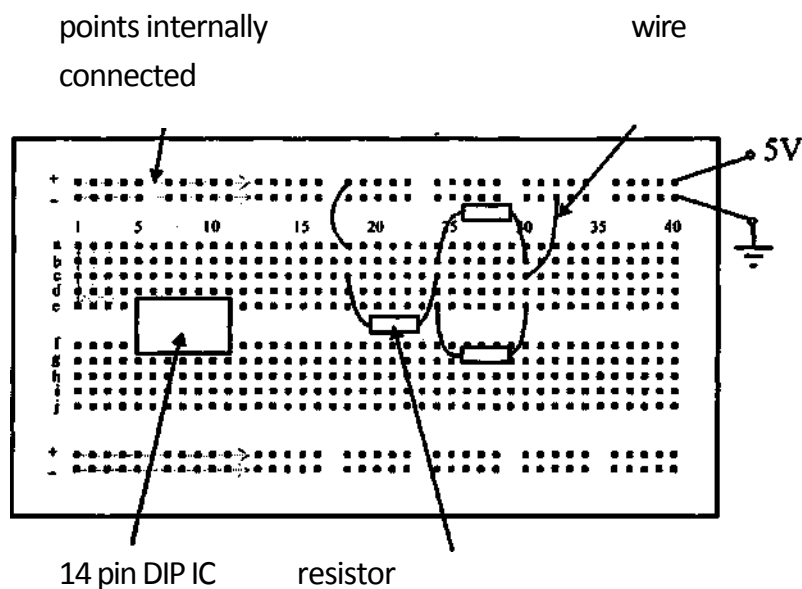
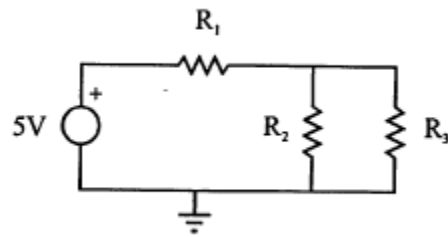
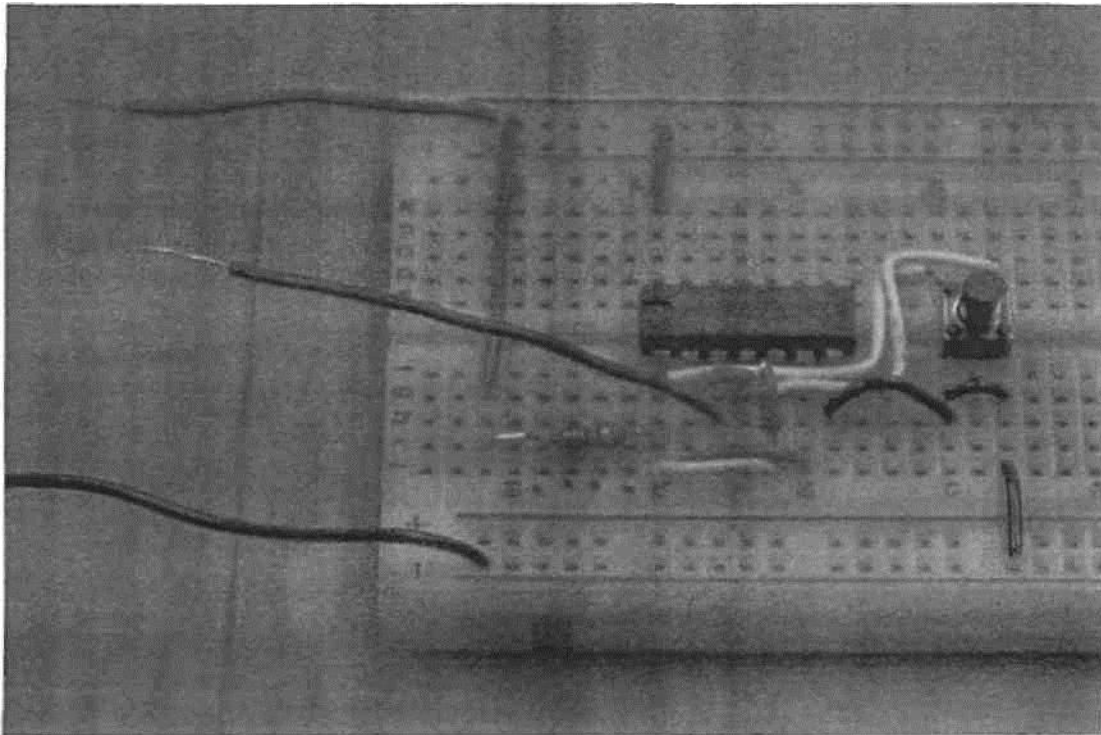

Figure 1.2 Breadboard
Figure 1.3 Example resistor circuit schematic
Figure 1.4 Example Breadboard Circuit
A breadboard is a convenient device for prototyping electrical and electronic circuits in a form that can be easily tested and changed. Figure 1.2 illustrates a typical breadboard layout consisting of a rectangular matrix of insertion points spaced 0.1 in apart. As shown in the figure, each column a through e, and f through j, is internally connected, respectively. The + and - rows that lie along the top and bottom edges of the breadboard are also internally connected to provide convenient DC voltage and ground busses for connecting to specific insertion points. As illustrated in the figure, integrated circuits (IC) are usually inserted across the gap between columns a through e, and f through j. A 14-pin dual in-line package (DIP) IC is shown here. When the IC is placed across the gap, each pin of the IC is connected to a separate numbered column, making it easy to make connections to and from the IC. The figure also shows an example of how to construct a simple resistor circuit. The schematic for this circuit is shown in Figure 1.3. Figure 1.4 shows an example of a wired breadboard including resistors, an integrated circuit, and a push-button switch. When constructing such circuits, care should be executed in trimming leads so the components lie on top of the breadboard in an organized geometric pattern.